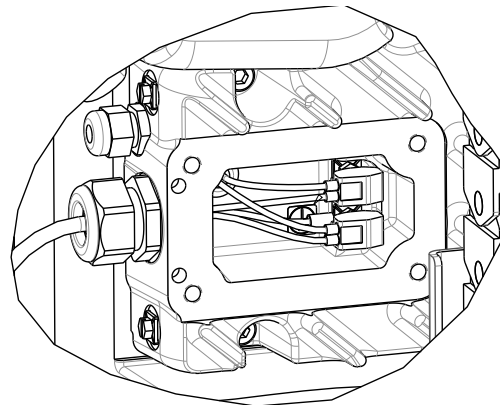

FIG. 38: Wires in Driver Housing
- If using a Single Ram Supply System, turn the red Disconnect Switch (AZ) OFF.
- If using a Tandem Ram Supply System, turn the red Disconnect Switch (AZ) OFF only on the Ram Supply Unit the Driver is being removed from.
- Disconnect power from the Driver (AB):
- Remove the Driver housing cover (HC).
- Disconnect the wires inside the Driver housing. See FIG. 38.